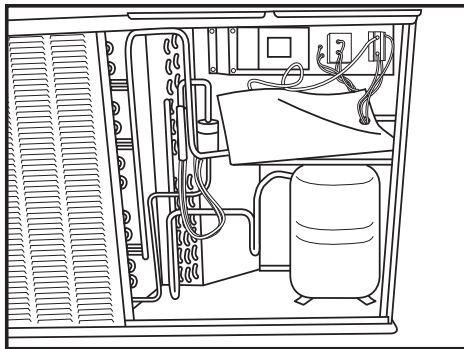

Fig. 6 – Removal of Right Front Panel
- a. Removal of the right front panel, opposite the duct flanges will give access to the component above. (See Fig. 6.)